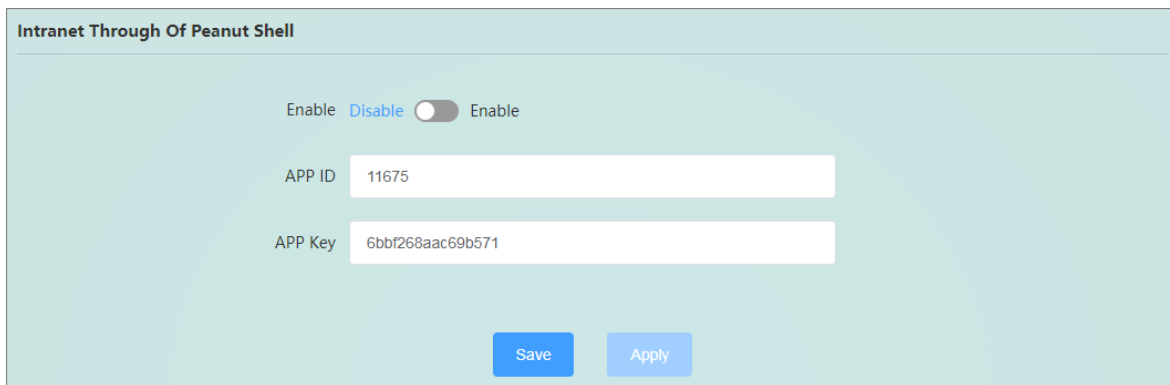

Figure 4-40 Get the front page of the QR code
1. Peanut shell intranet penetration function is disabled by default, and the preset APP ID and APP Key are used by default (APP ID and APP Key can be changed, and you need to log in to <https://open.oray.com> to register and apply) for login authentication. Select Enable, click Save and Apply, the page will display the SN code and service device status, as shown in Figure 4-40.